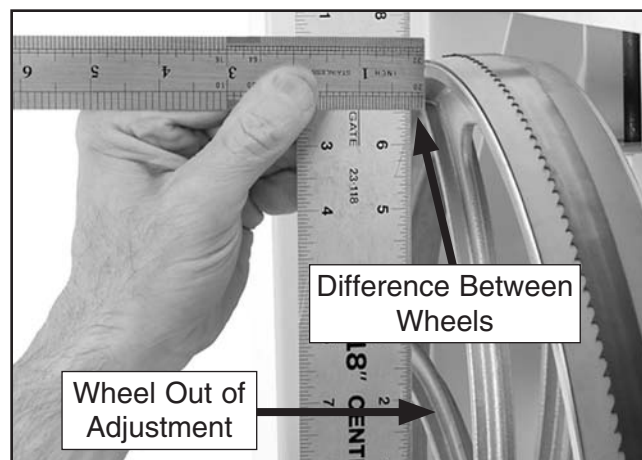

Figure 110. Determining distance needed to shim upper wheel.
3. With a straightedge touching both points of the wheel that does not need to be adjusted, measure the distance away from the wheel that is out of adjustment (see **Figure 110**).